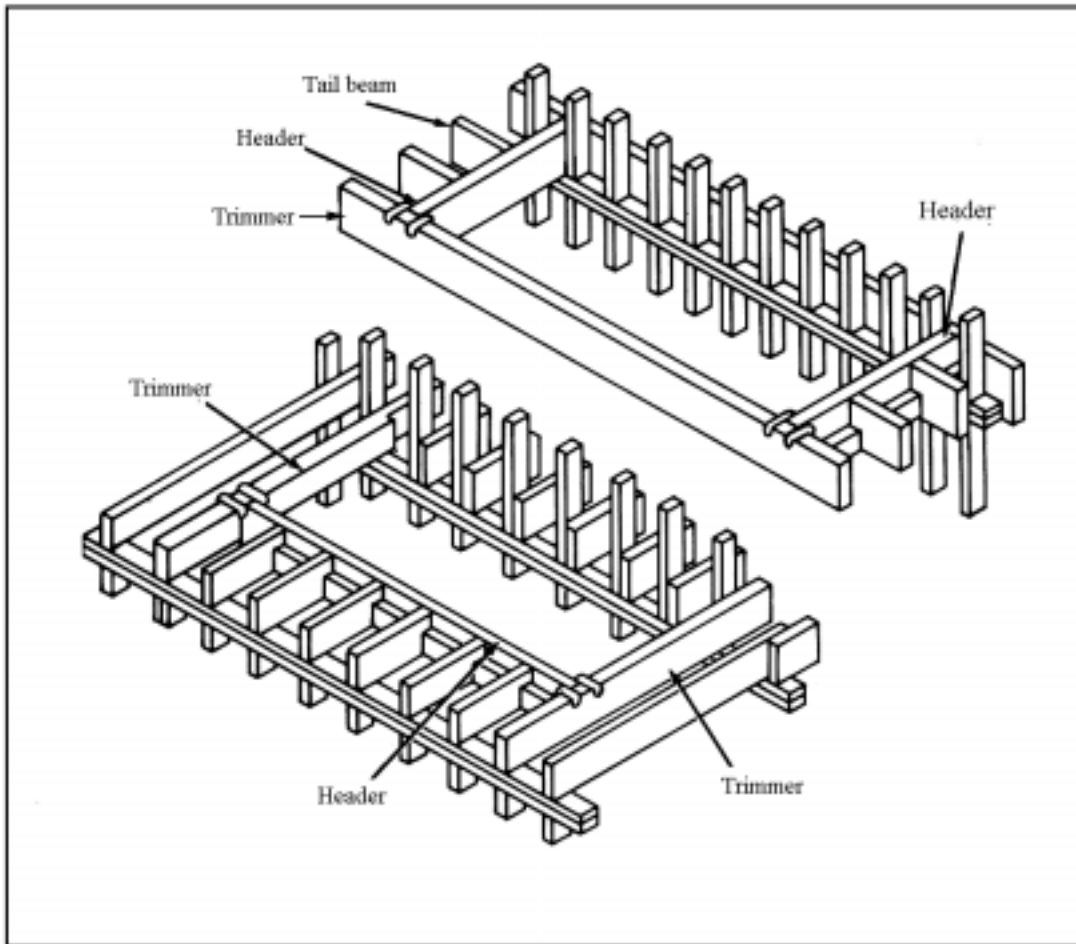

Figure 051-236-1141-3
- (1) Ensure that compression bridging consists of cross bridging. Use a factory constructed, rigid-metal bridge.
- (2) Make the compression bridge member with a nailing flange and fasten with 8d or 10d common nails.
- 6. Construct floor openings (Figure 051-236-1141-3).